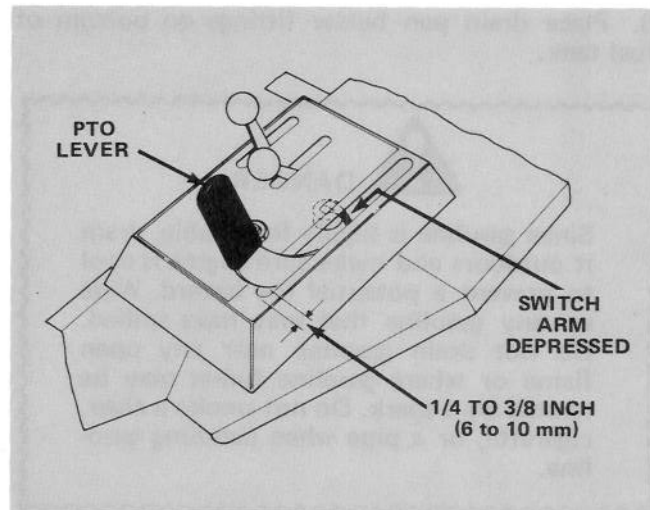

Figure 70
1. Visually check PTO lever to be sure it deflects switch arm when lever is in the disengaged position (Fig. 70). Back surface of PTO lever must be within 1/4 to 3/8 in. (6 mm to 10 mm) from end of the slot (Fig. 70). If PTO lever does not deflect switch arm, proceed to step 2.
2. Pull high tension wire off spark plug. To adjust the PTO lever, remove the seat cover. Loosen jam nut from PTO engaging yoke (Fig. 71). Loosen adjusting screw until PTO lever is within 1/4 - 3/8 in. (6 - 10 mm) from end of the slot, when lever is in the disengage position (Fig. 70). This will deflect the switch arm. Tighten jam nut against yoke to lock the adjustment in place (Fig. 71). Move PTO lever to disengage position and rotate locknut at top of spring until the dimension of spring, between the top and bottom flatwasher, is 3-9/16 in. (9.0 cm) (Fig. 71). Repeat step 1.